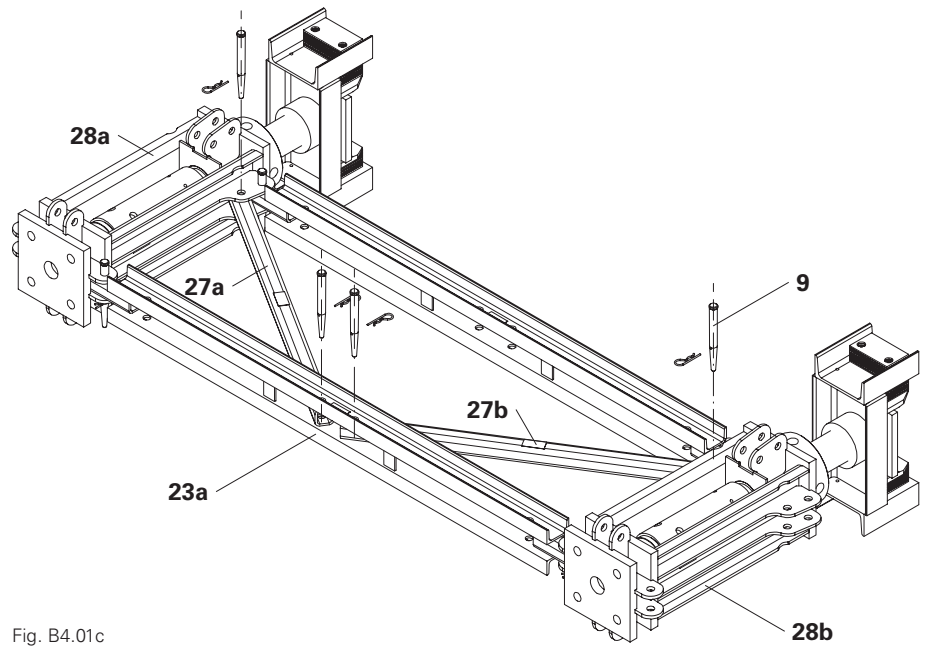

Fig. B4.01c
9. Connect the second diagonal strut VST 200/62.5 (**27b**) to the horizontal ledger VST (**23a**) using 1x fitting pin  $\varnothing$  21 mm (**9**) and secure with cotter pin 4/1, galv. (Fig. B4.01c)